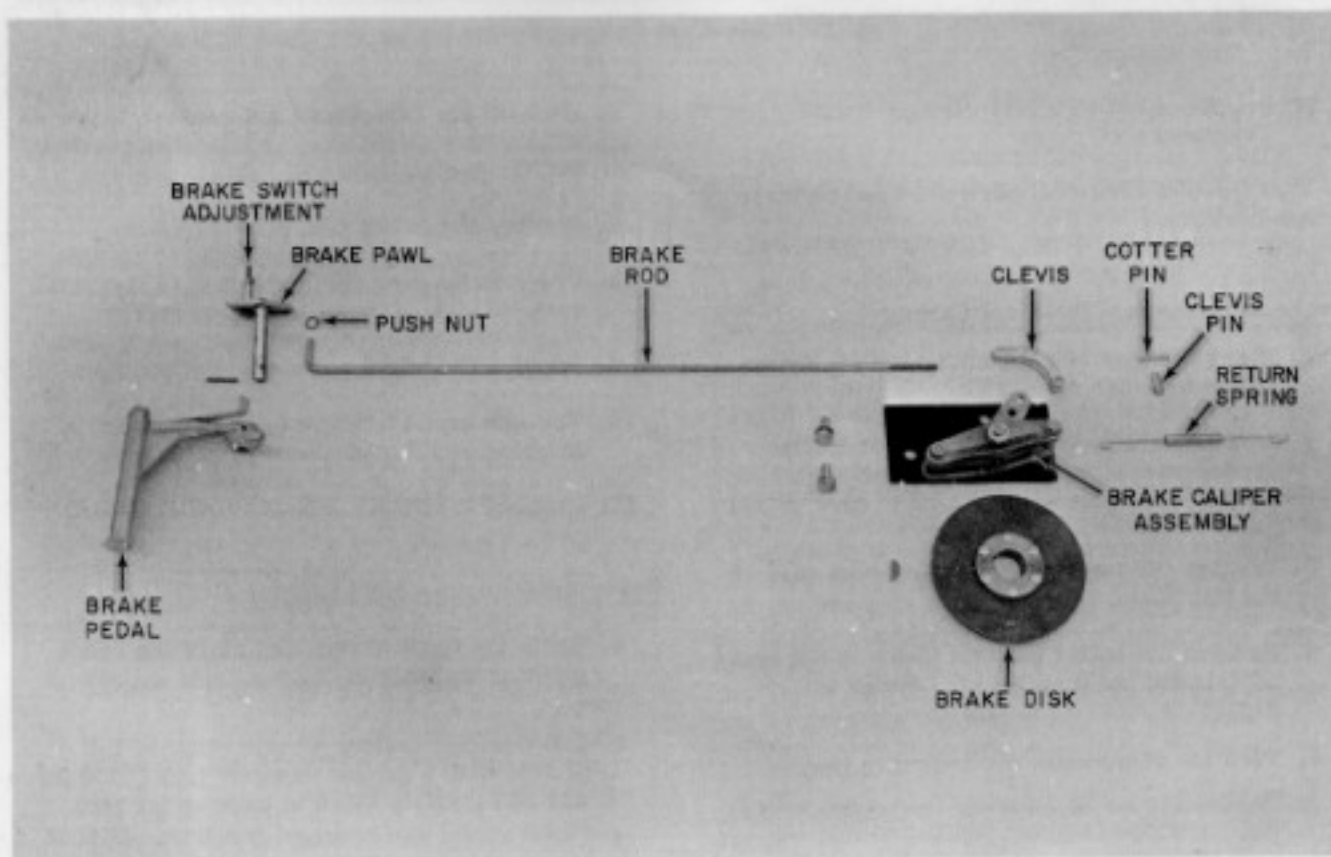

Fig. 1-17 Steel Caliper Brake
4. Remove the cotter pin from the brake clevis pin. See Fig. 1-17.